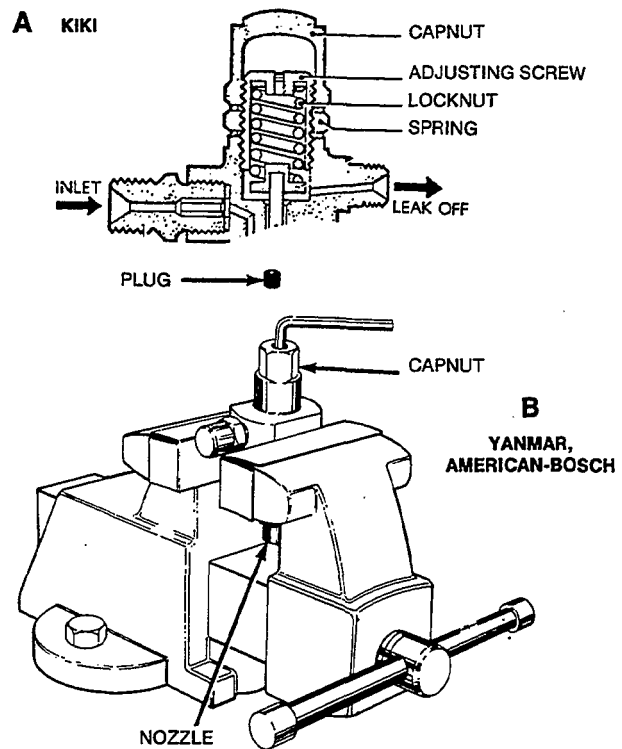

FIGURE 68. NOZZLE ADJUSTMENT
1. Remove cap nut, Figure 68.
1. Remove plug from cap nut, Figure 68.